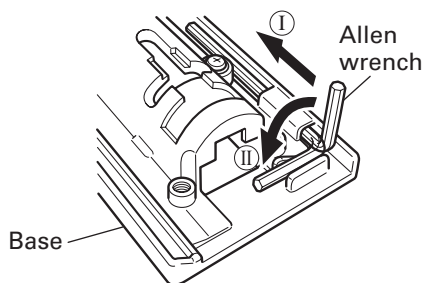

Fig. 18
- It is possible to house the axiliary allen wrench on the base (see Fig. 18).